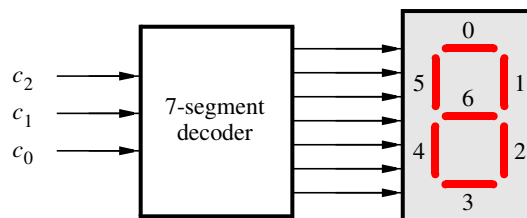

Figure 6. A 7-segment decoder.
Figure 6 shows a 7-segment decoder module that has the three-bit input $c_2c_1c_0$. This decoder produces seven outputs that are used to display a character on a 7-segment display. Table 1 lists the characters that should be displayed for each value of $c_2c_1c_0$. To keep the design simple, only six characters are included in the table (plus the 'blank' character, which is selected for codes 110 – 111).
2. Create a Verilog module for the 7-segment decoder. Connect the $c_2c_1c_0$ inputs to switches SW_{2-0} , and connect the outputs of the decoder to the $HEX0$ display on the DE2 board. The segments in this display are called $HEX0_0$, $HEX0_1$, \dots , $HEX0_6$, corresponding to Figure 6. You should declare the 7-bit port